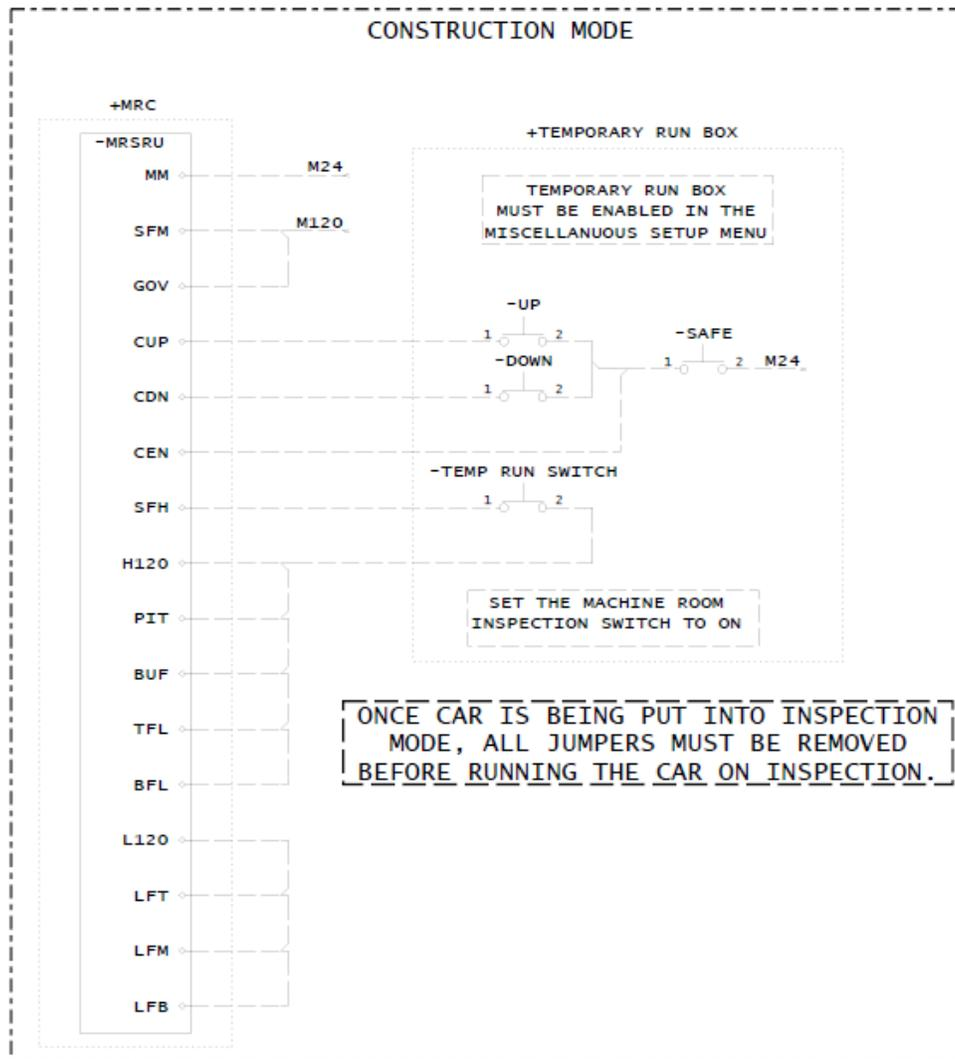

Figure 6: Example of Construction Wiring
- Figure 6: Example of Construction Wiring6